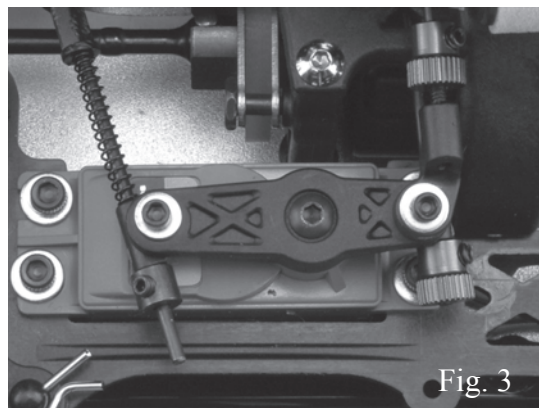

Fig. 3
4. Place the servo arm adaptor onto the output shaft of the servo. Aligning the throttle servo arm parallel with the side of the servo case, place the arm onto the splines of the adaptor. If there is a slight angle, use the trim adjustment on your radio to position the arm as shown (Fig. 3). Secure the throttle servo arm with the screw supplied with the servo.
NOTE: If the arm cannot be positioned as shown using trim adjustment, the angle can be changed by removing the arm and adaptor and rotating the adaptor one spline in either direction until the arm is positioned as shown (Fig. 3).